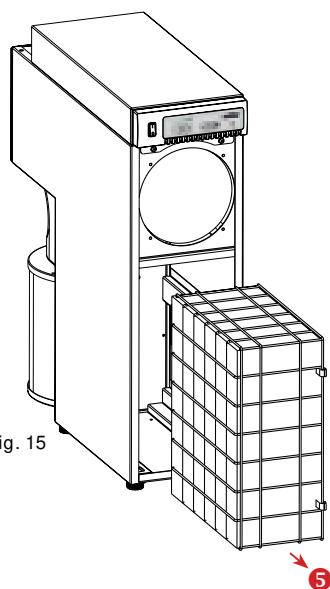

Fig. 15
- ⑤ pull the filter cage out in a forward direction (fig. 15).